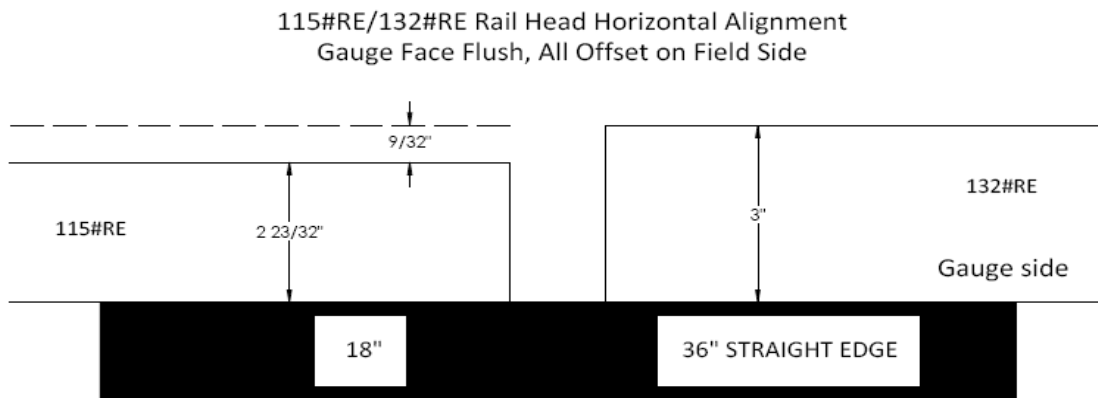

Fig. 13.7
- Horizontal alignment of the head of the rail, on rail ends of different sections, shall be performed on the gauge face such that the rail is perfectly straight, with no kinks. Any difference in width or offset occurs on the field side of the rail head. (Figure 13.7 shows the correct horizontal alignment of the rail head for a 115/132 # compromise weld).